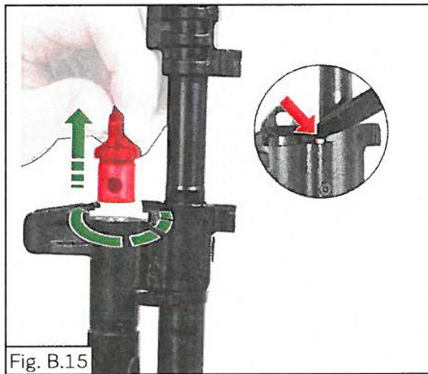

Fig. B.15
- detach the plug of the gas cylinder, for this purpose press the retainer, turn the plug by 90 ° and shift it to the front as shown in Fig. B.15.